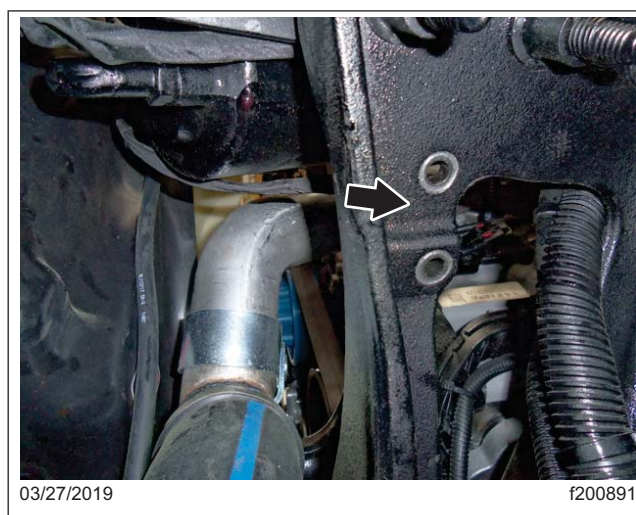

Fig. 3, Fastener Locations
7. Accessing them from underneath the engine cross member, remove the two bolts that are holding the remainder of the old hard lines to the cross member and remove the hard lines. See Fig. 3. Save the bolts and fasteners.